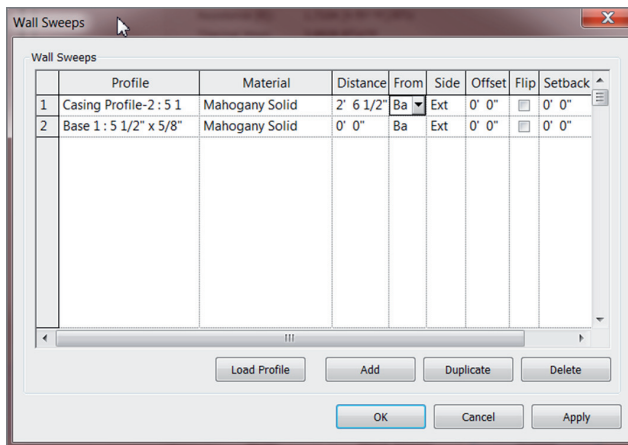

FIGURE BC1.10: Configuring the two sweeps
20. In the Wall Sweeps dialog box, click the Add button, as shown in Figure BC1.10.
26. Set Distance 2'-6 1/2" (775 mm) from the base (see Figure BC1.10).